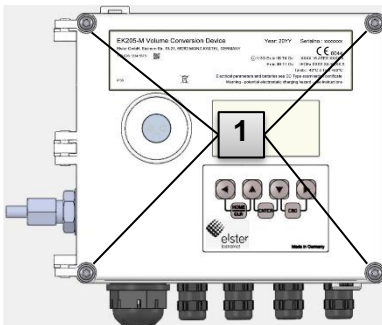

Fig. 19
1. Close the housing using the four pre-installed screws (Fig. 19: 1).